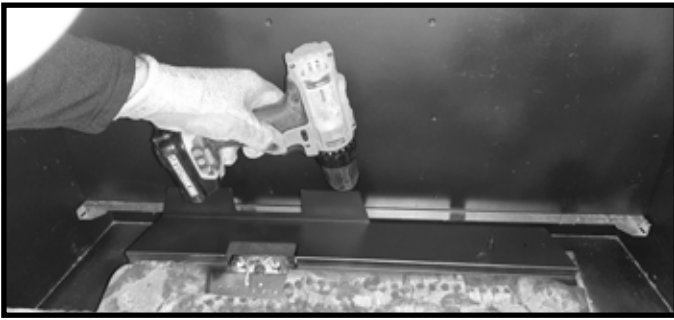
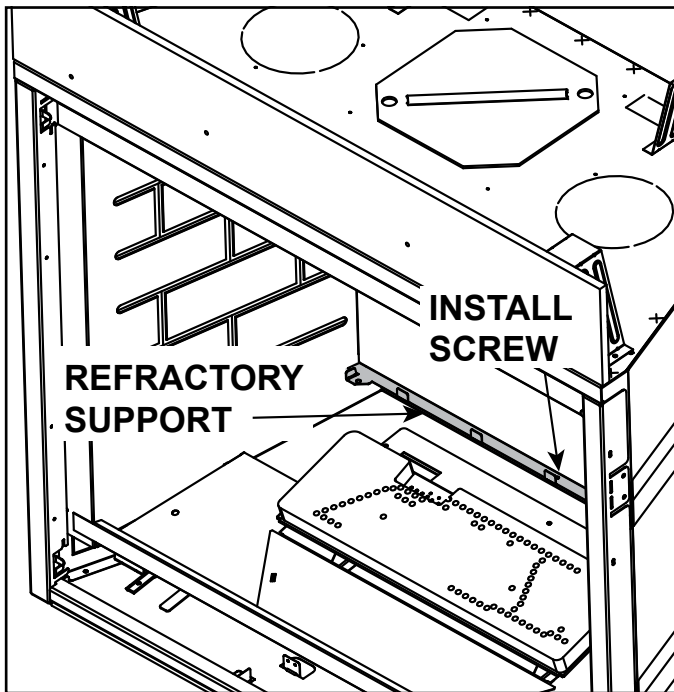

Figure 3 Install Back Refractory Support
Figure 4 Back Refractory Support Installed
5. Place back refractory support on back air passage return bend, align holes and install with one screw as shown in Figure 3 and Figure 4.